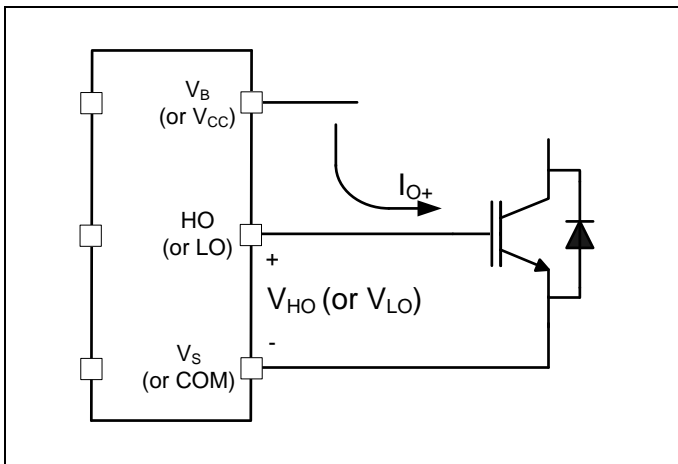
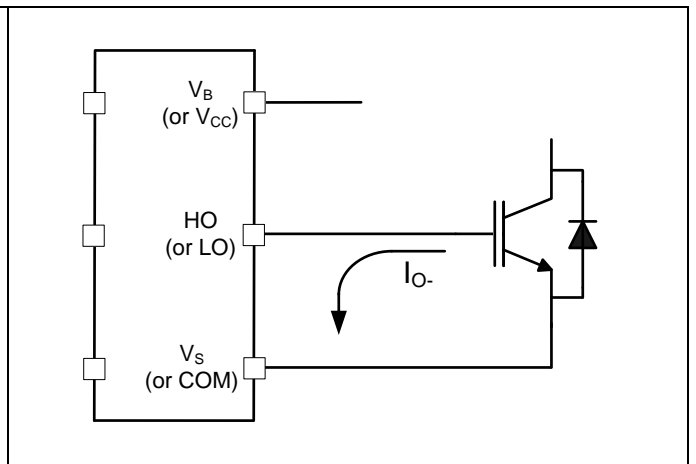

Figure 4 HVIC Sourcing current
Figure 5 HVIC Sinking current
The 2ED2108 (4) S06F (J) HVIC is designed to drive MOSFET or IGBT power devices. Figure 4 and Figure 5 illustrate several parameters associated with the gate drive functionality of the HVIC. The output current of the HVIC, used to drive the gate of the power switch, is defined as  $I_o$ . The voltage that drives the gate of the external power switch is defined as  $V_{HO}$  for the high-side power switch and  $V_{LO}$  for the low-side power switch; this parameter is sometimes generically called  $V_{OUT}$  and in this case does not differentiate between the high-side or low-side output voltage.